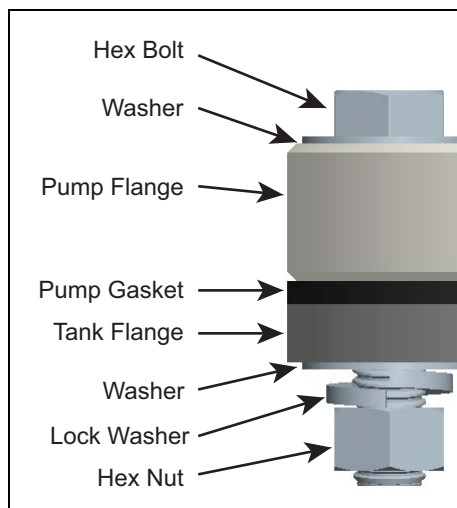

Figure 7. Installing Pump Flange Fasteners
3. Secure the RJ DEF Pump to the Tank Flange using the mounting Hex Bolts, Washers, Lock Washers, and Hex Nuts provided in the accessory parts box that were shipped with the RJ DEF Pump shipping container. The supplied anti-seize compound must be placed on the Hex Bolt Threads to ensure proper assembly and removal of the mounting hardware. Reference Figure 7.